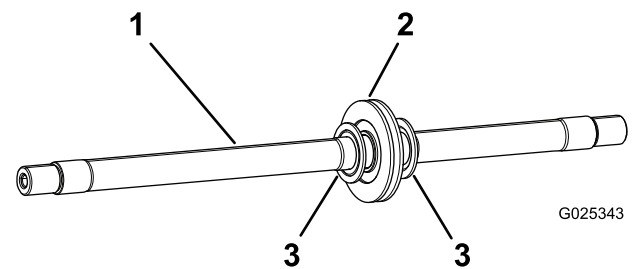

Figure 6
- Install a spacer disc onto the slightly larger area of the axle, where the 2 roller tubes meet (Figure 6).
- Install a flocked bearing shield on each side of the spacer disc (Figure 6).